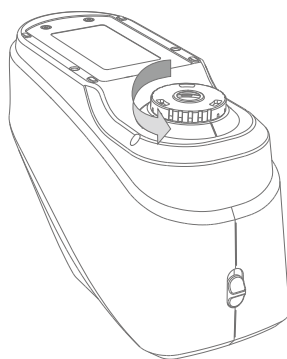

Figure 47 Measurement Aperture
Step 1: As shown in Figure 47, counterclockwise rotates the measurement aperture, and take off it, then install the new aperture clockwise. When hearing a voice, it shows ok.